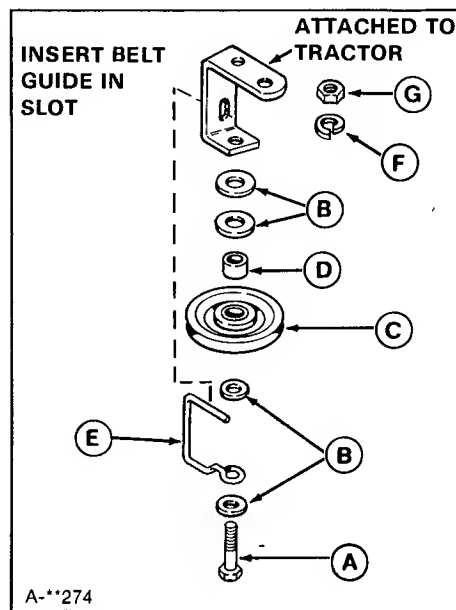

Figure 23.
11. Refer to figure 23 to reinstall the middle idler pulley. Position flat side of belt against the pulley, position the belt guide (E, figure 23) and hardware, and install as shown. Make sure pulley can rotate freely after installation.